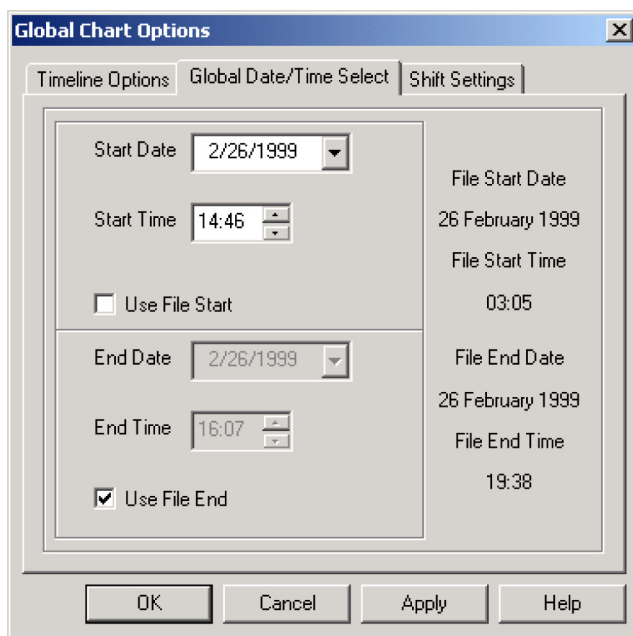

Figure 5.17 *Global Chart Options, Global Date/Time Select*
- 4 Using the **Start Time** standard Windows control, change the start time to 14:46 (see Figure 5.17).